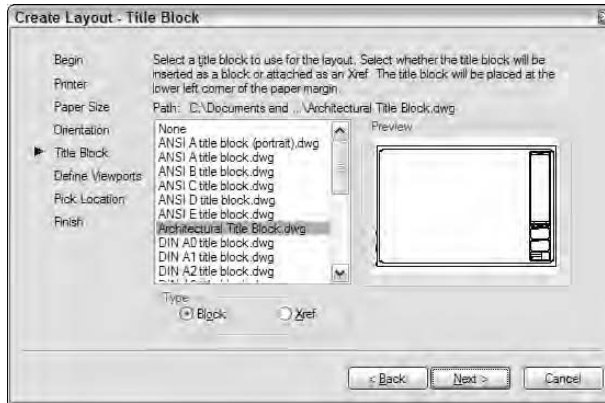

Figure 4-10:
- 6. Select a title block or None (see Figure 4-10) and click Next.**